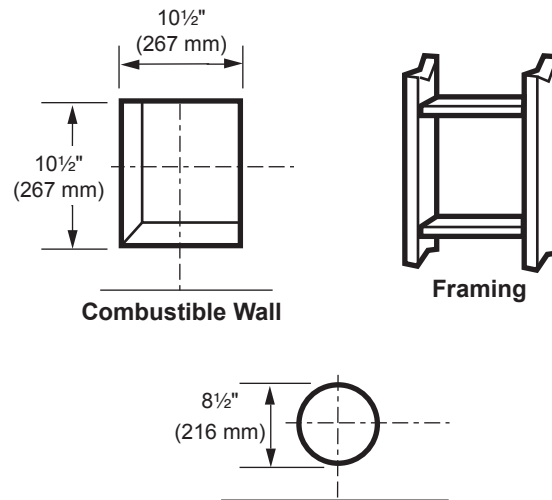

Figure 25 - Exterior Wall Framing Dimensions
- Combustible Exterior Walls:** Cut a 10½"H x 10½" W (267 x 267 mm) square hole through the exterior wall frame. *Figure 25*
2. The center of the hole should align with the center line of the horizontal rigid vent pipe end. Allow ¼" minimum rise per foot. *Figure 25*